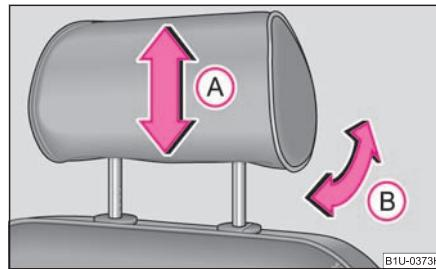

Fig. 57 Head restraint: adjusting ►
- Grasp the side of the head restraint with both hands and push the head restraint up or down in direction of arrow **(A)** ⇒ page 59, fig. 57.
- The head restraint can be matched to the head of the occupant by adjusting the angle in the direction of the arrow **(B)** ⇒ page 59, fig. 57. Adjusting the angle of the head restraint provides enhanced comfort for the user.